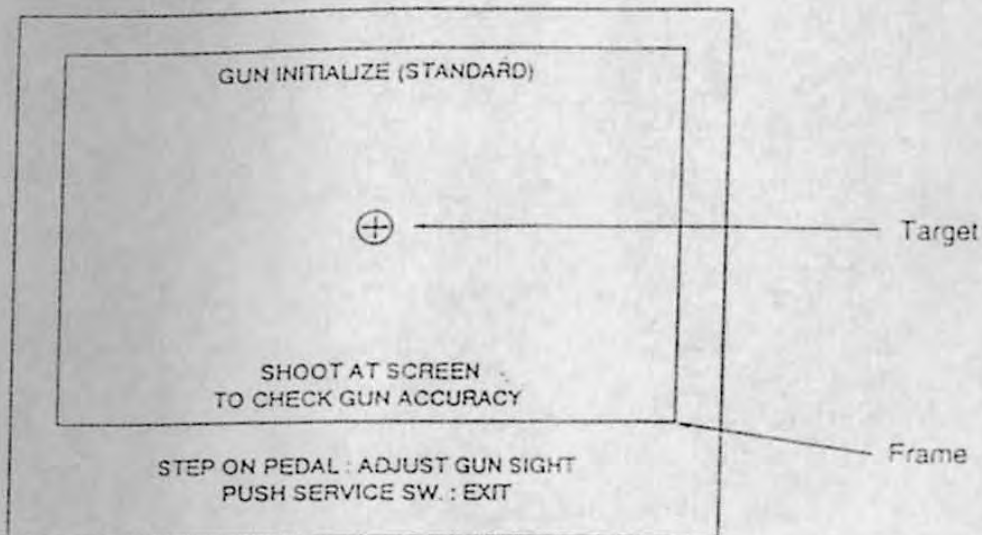

Fig. 6.16 Gun Initialization Screen 3
- 5) On the screen shown in Fig. 6.14, aim and shoot the gun at the screen and a target will appear (see Fig. 6.16). Make sure that the target appears at the location where the gun is aimed and shoot at.
- 6) On the screen shown in Fig. 6.16, make sure the gun can shoot everywhere within the frame. If the gun is not initialized properly, step on the pedal to return to the screen shown in Fig. 6.15, and initialize the gun again.